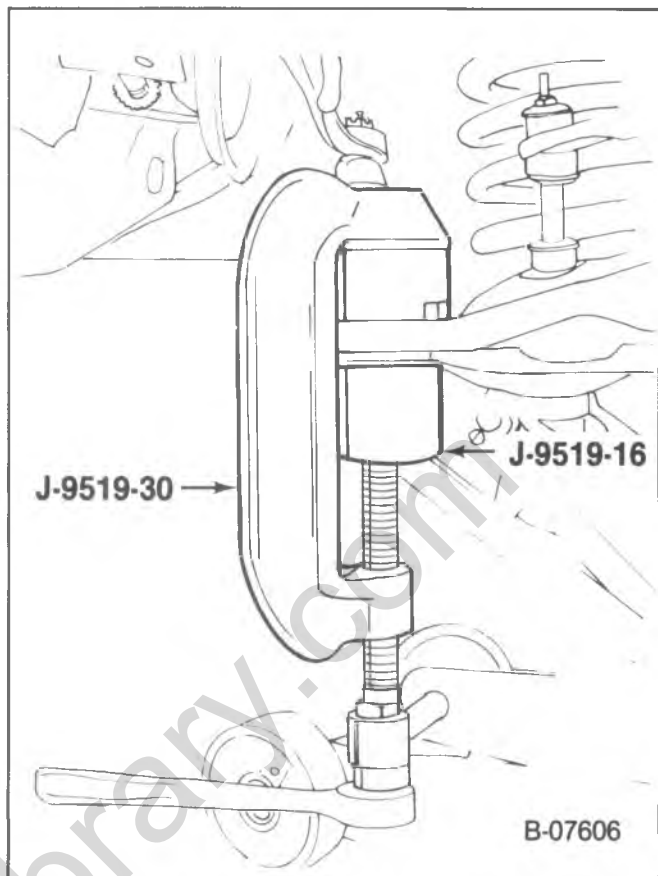

Figure 20—Installing the Lower Ball Joint
1. Ball joint (37) into the lower control arm (36).
- Start the ball joint into the control arm and install J-9519-16 and J-9519-30 (figure 20).
2. Ball joint into the steering knuckle (31).
- Mate the steering knuckle (31) to the lower ball joint (37).